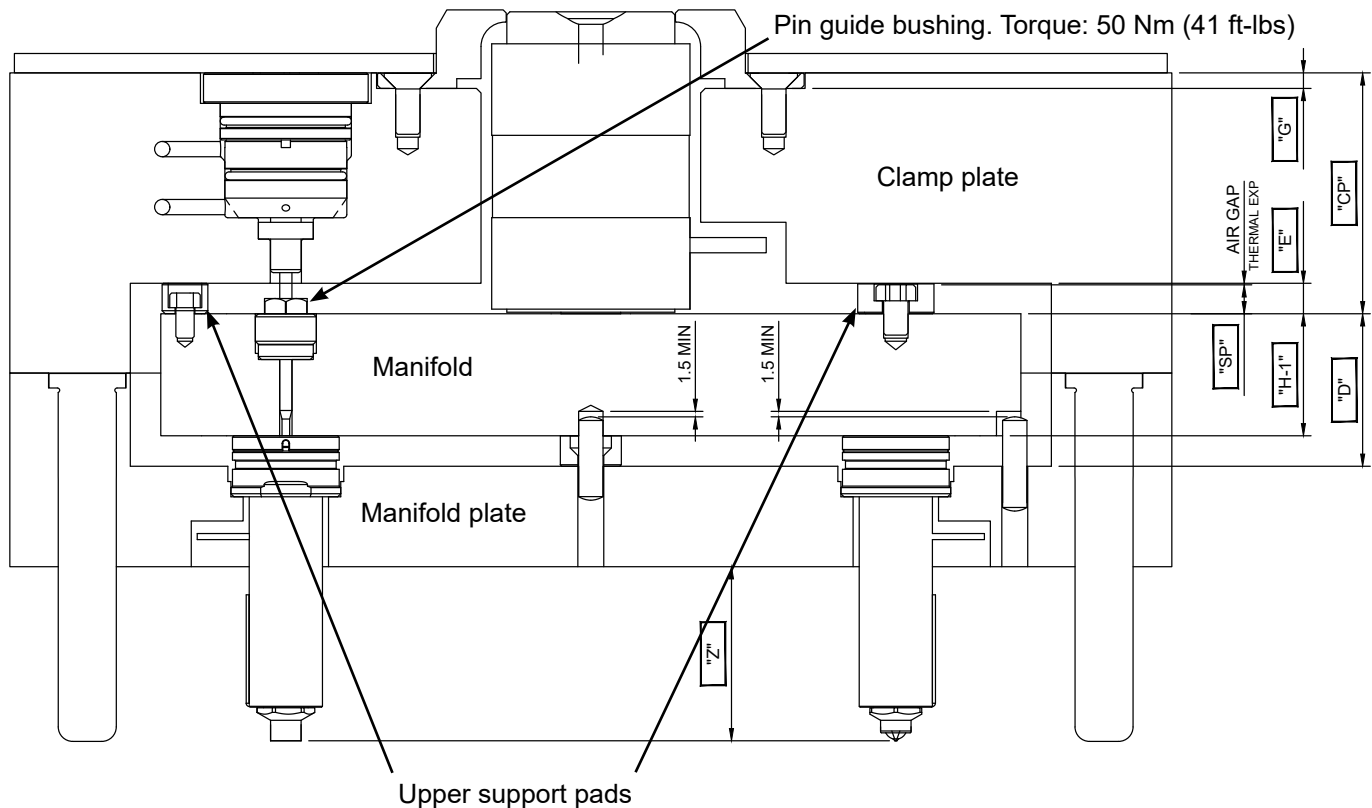

Figure 6 Locations of Support Pads and Pin Guide Bushing
Size and install the upper support pads into the underside of the clamp plate. (Note: The upper support pads are manufactured from a non-magnetic material. Fabricate a fixture to the grinder to hold the support pad.) This dimension will be the “E” dimension minus air gap (cold clearance) specified on the system general assembly drawing (see Figure 6 Locations of Support Pads and Pin Guide Bushing). Record this as dimension “SP” on the Master Inspection Sheet.
- a. Install the VG pin guide bushing and retaining screw into the threaded holes in the top of the manifold. Tighten the pin guide bushing to a torque 50 Nm (41 ft-lbs). See Figure 6 Locations of Support Pads and Pin Guide Bushing.